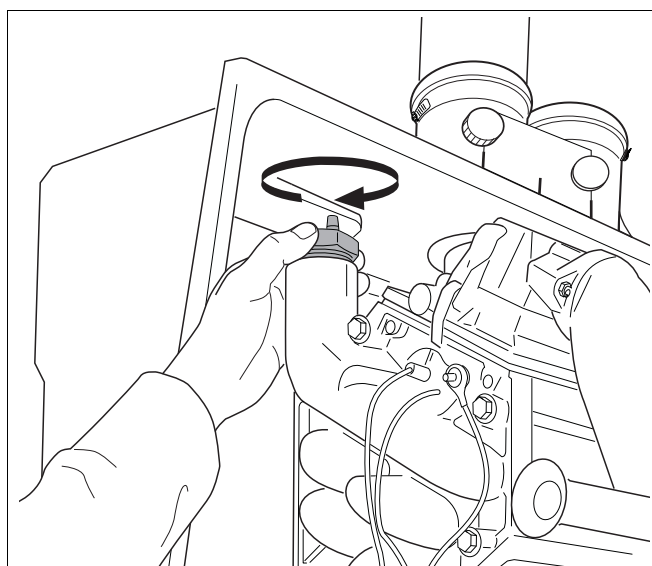

fig. 71 Removing the float cap
- Remove the float cap (see fig. 71).